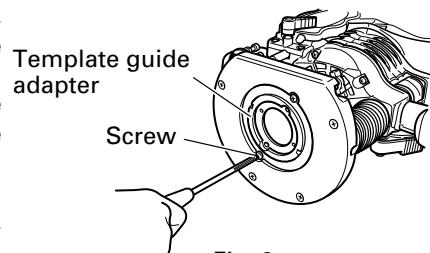

Fig. 9
(1) Template guide adapter
- ① Loosen the 2 template guide adapter screws, so that the template guide adapter can be moved. (Fig. 9)